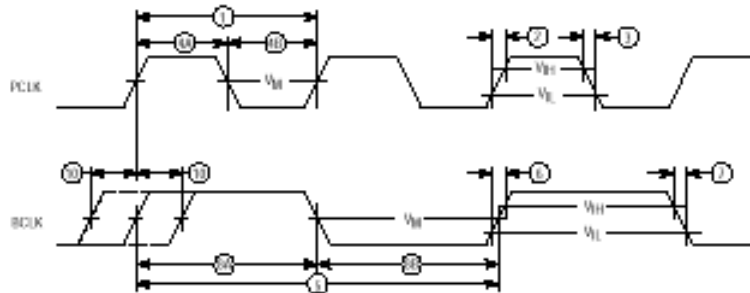

Figure A-4. Clock Input Timing Diagram
**A.6.5 Clock AC Timing Specifications** (see Figure A-4)